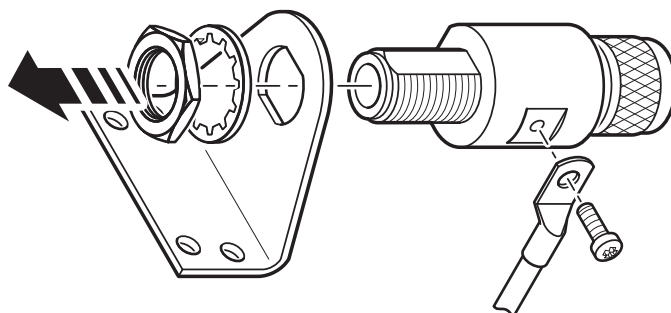

Figure 8.1: Assembly of the MBG S-PRO Surge Protector
2. Fit the MBG-S-PRO surge protector to the mounting bracket as shown in Fig. 8.1. The MBG S-PRO has no dedicated input or output polarity and therefore has no preferred installation orientation.